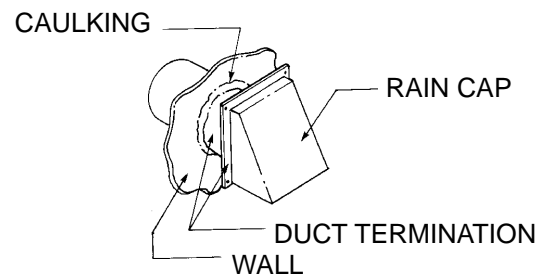

Figure 5 Caulk and Install Duct Termination
11. Caulk exterior of structure that will be contacted by outside air tube assembly (See Figure 5).
12. Insert outside air tube assembly into 6" diameter hole in structure. Align clearance holes on rain cap with clearance holes on outside air tube assembly. Attach rain cap and outside air tube assembly to structure with (6) 1 1/2" provided screws.